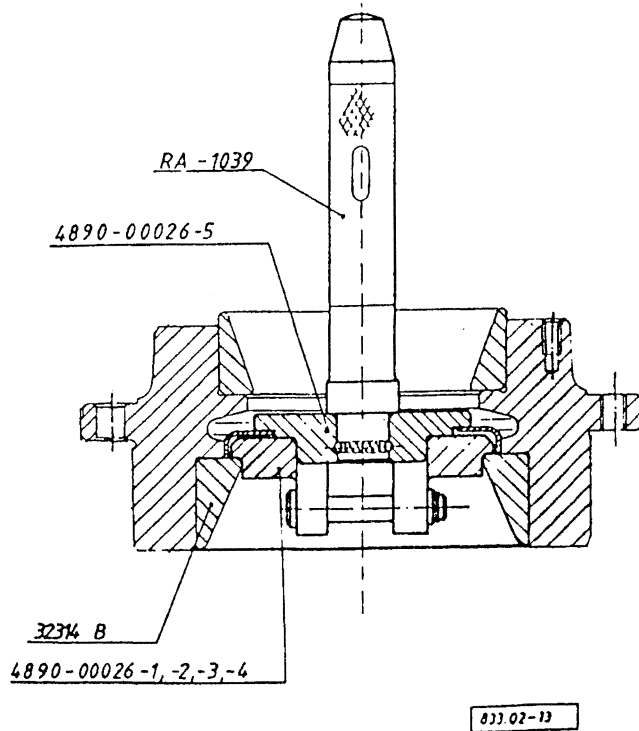

Fig. 1.: PRESSING OUT THE DRIVE PINION
By means of the device arranged from parts shown in the figure press the drive pinion (16) out of the removed bearing cage (8) (see Fig. 1.).